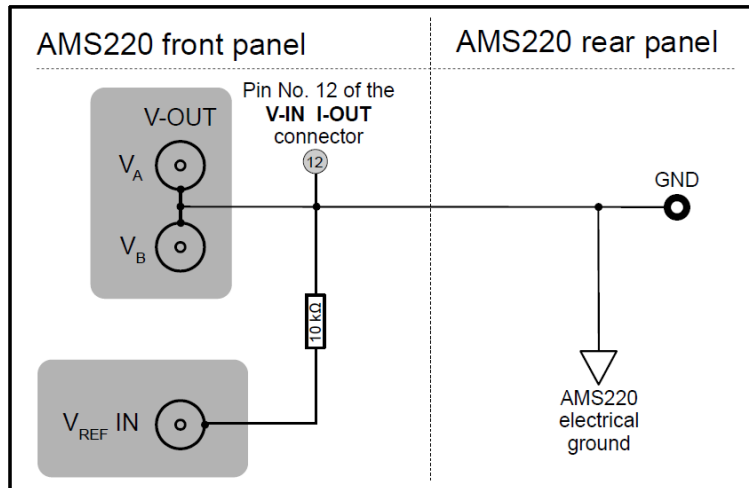

Fig. 4.1-3 The principal electrical grounding scheme of the AMS220.
In general, it is necessary to **avoid the formation of ground loops in the circuit** to which the AMS220 is connected (e.g., as a result of connecting the shields of various signal cables on their both ends), and to **avoid the formation of direct galvanic connection between various local electric grounds** in the experimental setup. Therefore, if the AMS220 is used in conjunction with an industry standard lock-in amplifier (as shown in Fig. 4.1-1), diagram of interconnection of the AMS220 with experiment (Fig. 4.1-2), grounding scheme of the AMS220 (Fig. 4.1-3) and interconnection of shielded signal wires between the lock-in amplifier and the AMS220 (Fig. 4.1-4) as shown in figures below need to be considered.
- a) In the case that the experiment has a grounded shield, and the connection is made pursuant to the point (i) above, the electrical ground of the AMS220 will be defined by the electric potential of the experiment shield; so because of internal connections of the AMS220 shields of the V_A and V_B outputs have the same electrical ground as the experiment shield (see Fig. 4.1-3). Therefore, if performing measurements with help of a lock-in amplifier, it is necessary to select appropriate grounding mode of the shields of the signal inputs **A** and **B** on the lock-in amplifier (typically **"FLOAT"** setting); this prevents creation of undesired low-impedance interconnection between the electrical ground of the lock-in amplifier and the electrical ground of the experiment.
- b) On the contrary, if the electric shield of the experiment is not connected to the defined electric potential (i.e. one is floating), it is recommended to select **"GROUND"** option on the lock-in amplifier, which ensures connection between the electrical ground of the lock-in amplifier with the electrical ground of the AMS220 via shields of signal BNC cables (see Fig. 4.1-2, Fig. 4.1-3 and Fig. 4.1-4). Regarding to the connection pursuant to the point (i) above, this will ensure also definition of the electrical ground of the experiment shield; in this case electric potential of the shields of experiment will be defined by the (grounded) shields of signal inputs (**A** and **B**) of the lock-in amplifier.